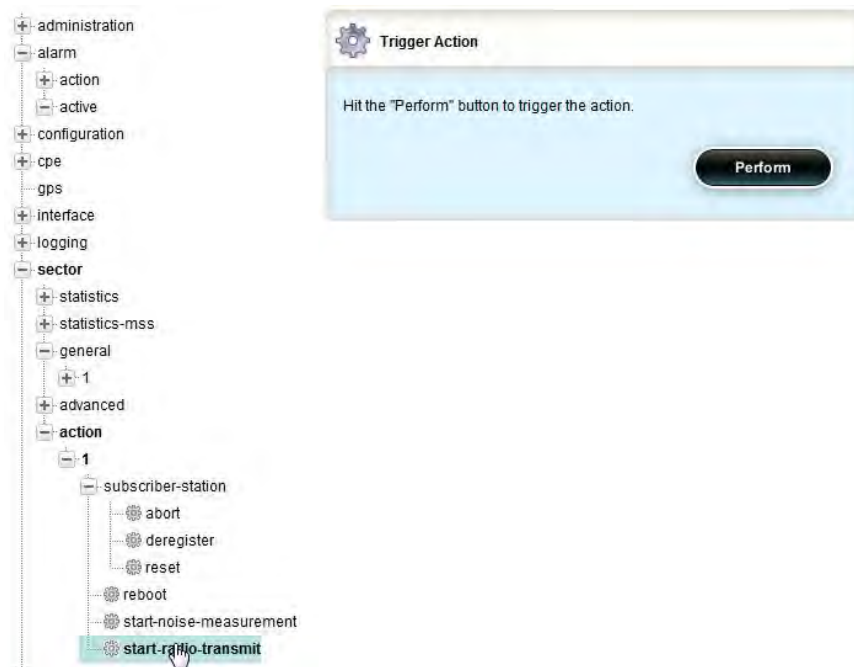

Figure 64 Radio Transmit Sector Action
- **Start-radio-transmit.** Will put the sector in a special mode to measure noise and interference (Figure 64)